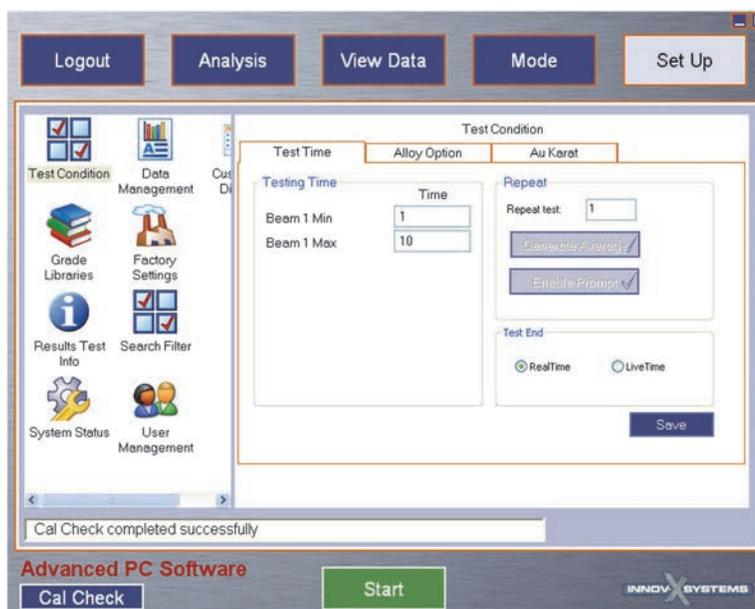

Figure 2-1 The Test Condition pane
Alloy mode setup involves setting test conditions such as test time parameters, smart beam and grade matching options. Settings are accessed from the **Test Condition** pane (see Figure 2-1 on page 45).
2. Click **Setup > Test Condition** to display the **Test Condition** pane (see Figure 2-1 on page 45).
1. Click **Setup > Test Condition** to display the **Test Condition** pane (see Figure 2-1 on page 45).